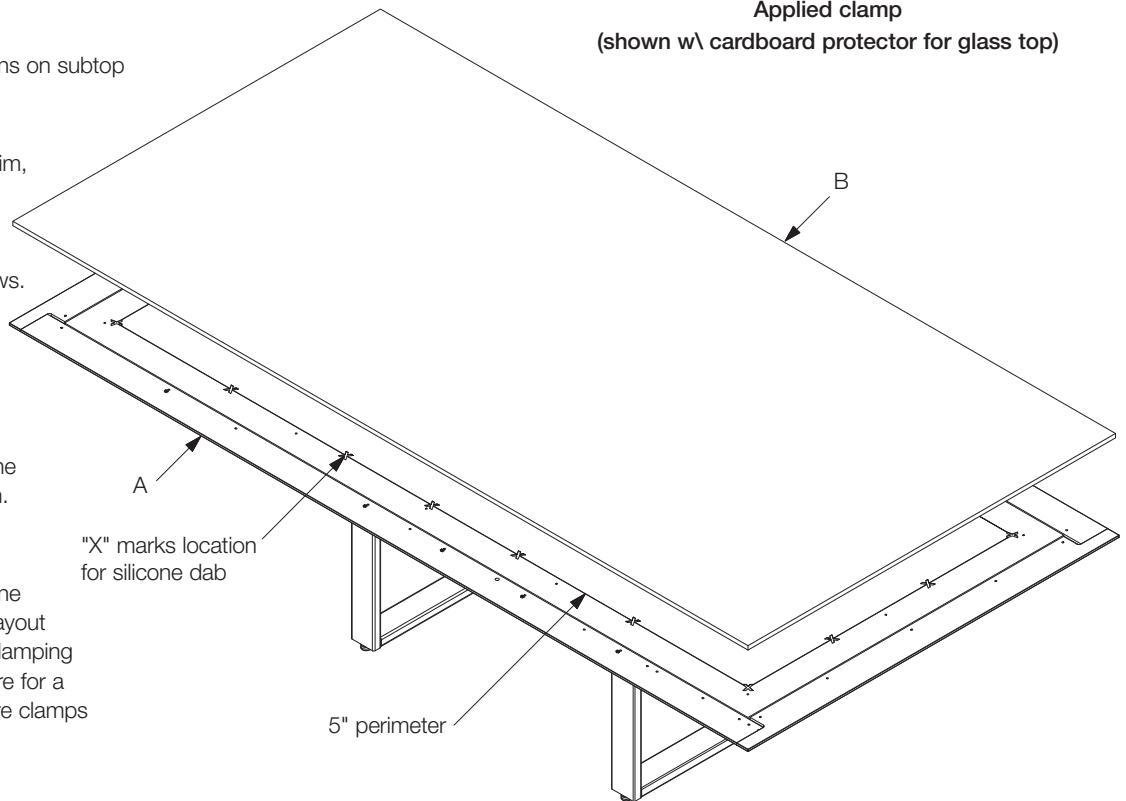

Fig. 09
6.1.1. Place a 1/2" dab of the silicone (L) provided on marked locations of subtop (A) approximately 5" in from the edge. (See Fig. 09)
6.1.2. Position ALL top (B) sections on subtop (A). (See Fig. 09)
6.1.3. If equipped with an edge trim, position the top (suction cups are recommended) so that an equal amount (1/4") of the edge trim shows. If not equipped with an edge trim, centre the top on the subtop. (See Fig. 09)
6.1.4. Using clamps (K) supplied with each table, clamp the top in place while the silicone sets. See section "Clamp layout guide" for recommended clamping locations. Silicone must cure for a minimum of 24 hours before clamps can be removed. (See Fig. 09)